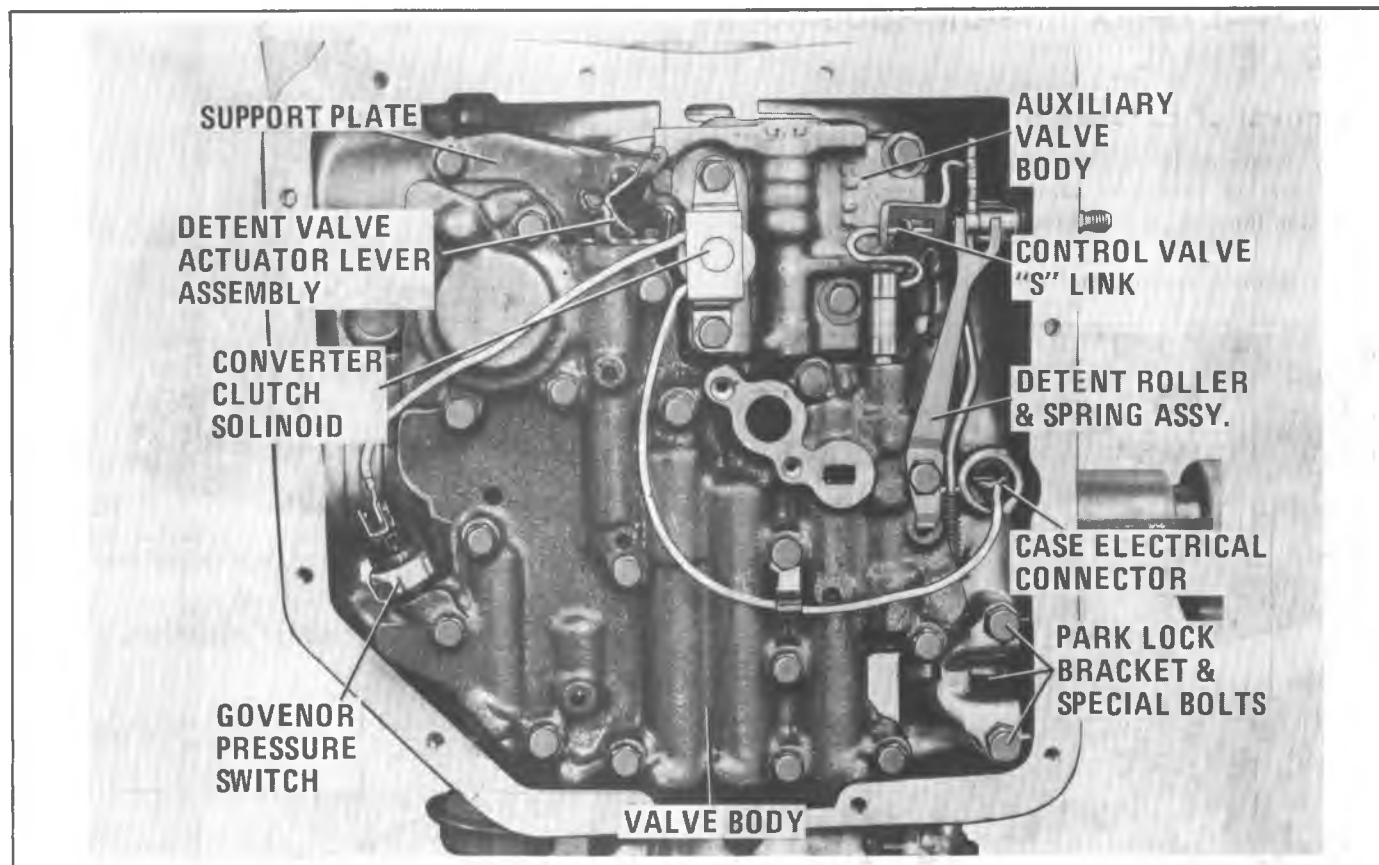

Figure 7A3-35A Valve Body and Related Components
Refer to Figure 7A3-36 for specific wiring diagrams for the various 350C Transmission models. The model code stamped is in the right side of the bell housing.
5. Remove manual shaft retaining clip with (Figure 7A3-42) screwdriver and slide manual shaft outward. This will allow the manual valve "S" link to be removed.